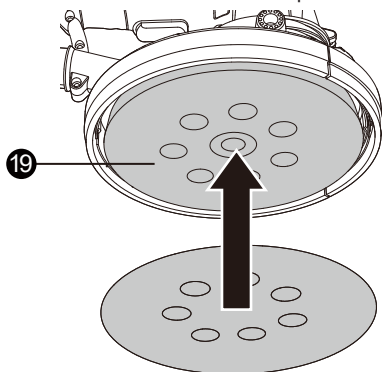

Figure 2
19. Base pad (See Fig. 2)
2. ATTACHING THE SANDING DISC (SEE FIG. 2)